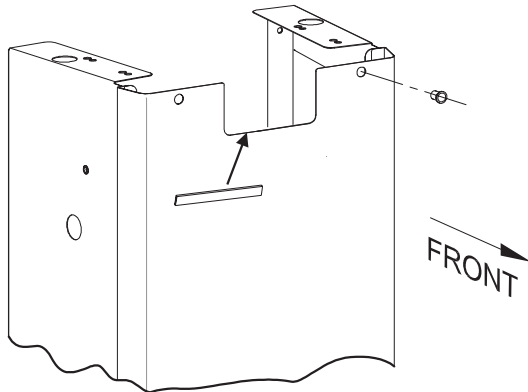

Figure 6
- Insert bushing in the front panel on the right for P and H series and on the left for R and T series grills. Install rubber guard over cart cut out. See Figure 6.